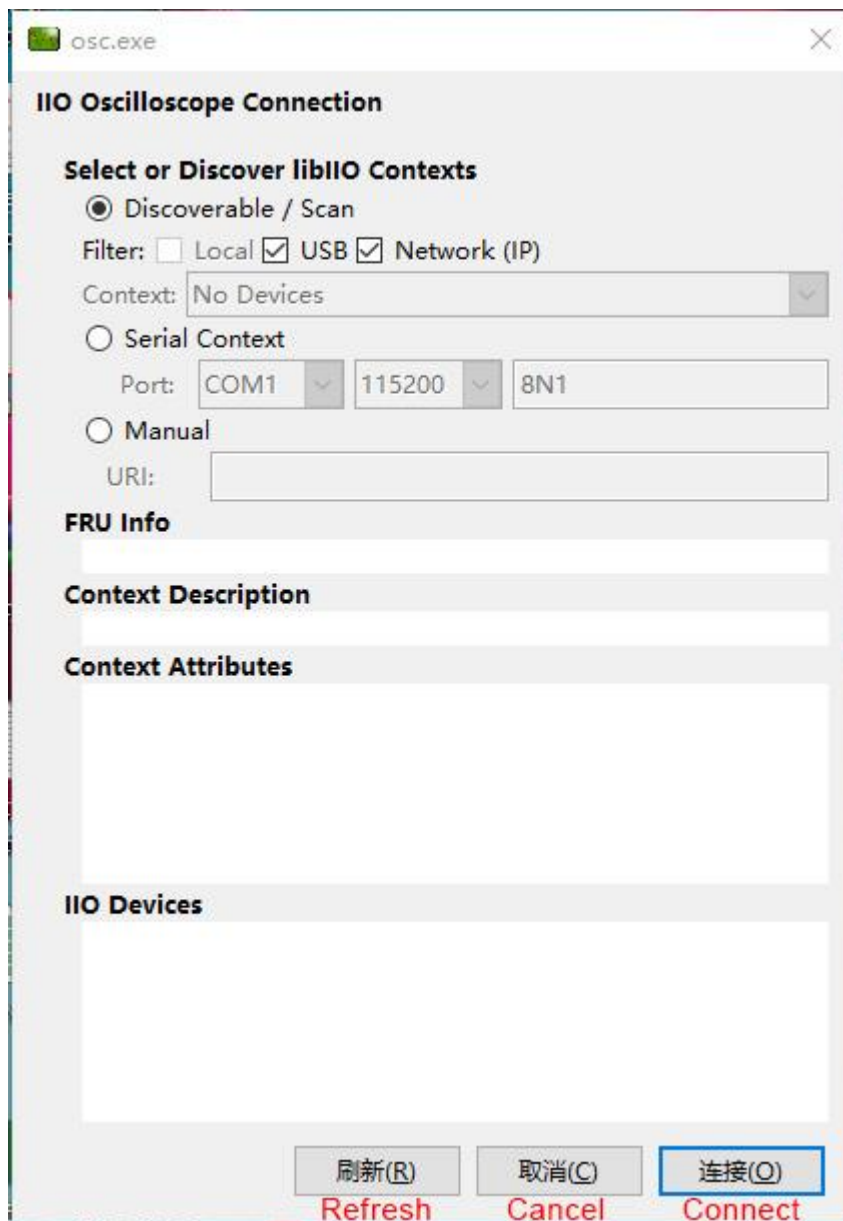
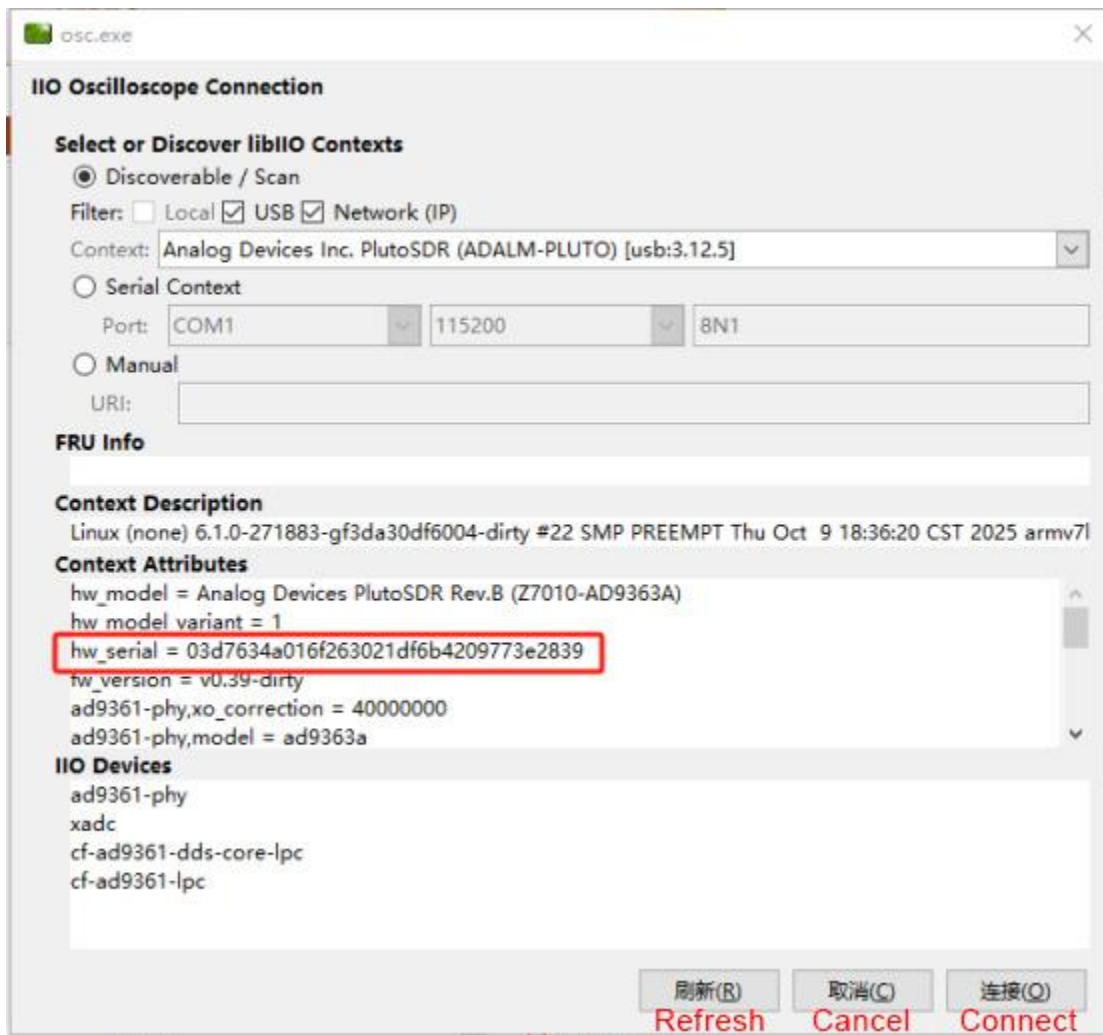

Figure 9: IIO Oscilloscope Device Scanning Interface
Figure 10
4.2. Device Recognition: Connect the PLUTOSDR NANO to the computer. When the device's STAT indicator starts blinking and a mass storage device appears, click the "Refresh" button in Figure 9. The software will detect the device and display related information, including the device serial number (within the red box, which is the device's unique identifier), as shown in Figure 10.
4.3. Device Connection: Click the "Connect" button in Figure 10 to enter dual-window mode.